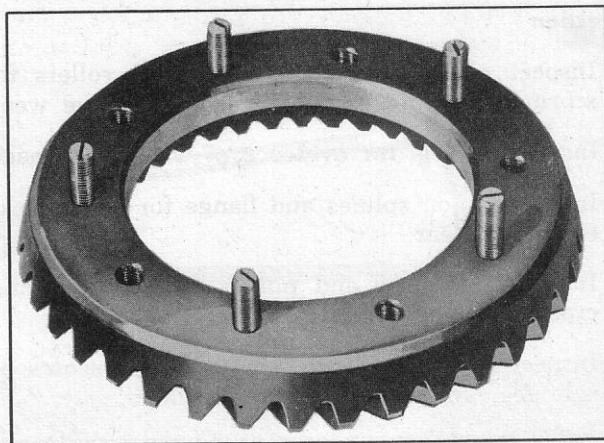

Fig. 26—Guide Pins in Ring Gear
7. Install guide pins made from $\frac{3}{8}$ "-24 x $1\frac{1}{2}$ " long capscrews with heads cut off and ends slotted (fig. 26) to new ring gear.